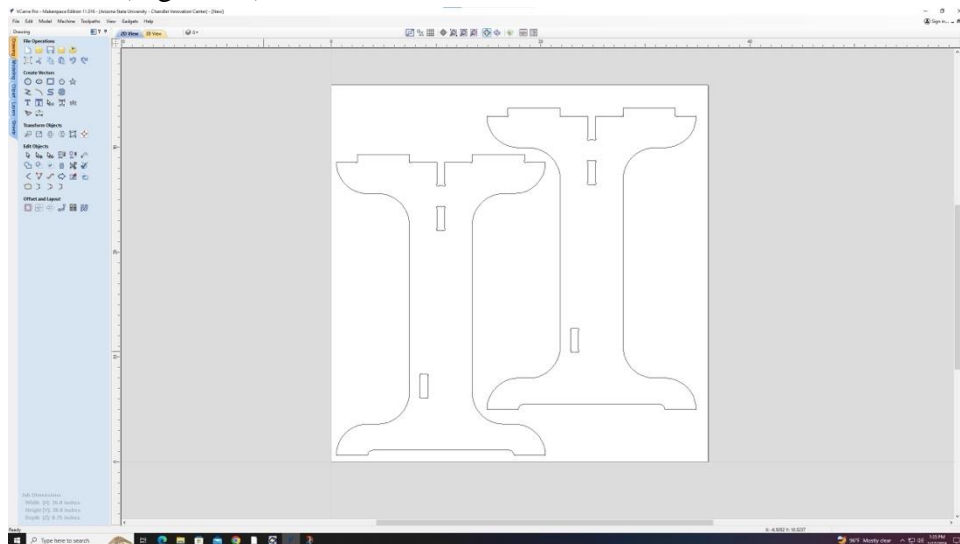

Figure 16: Placement of cutouts on the sheet(make sure cuts do not go outside of the sheet)
- a. Move the pieces on the board to make sure none of the parts are placed off the sheet(Figure 16).